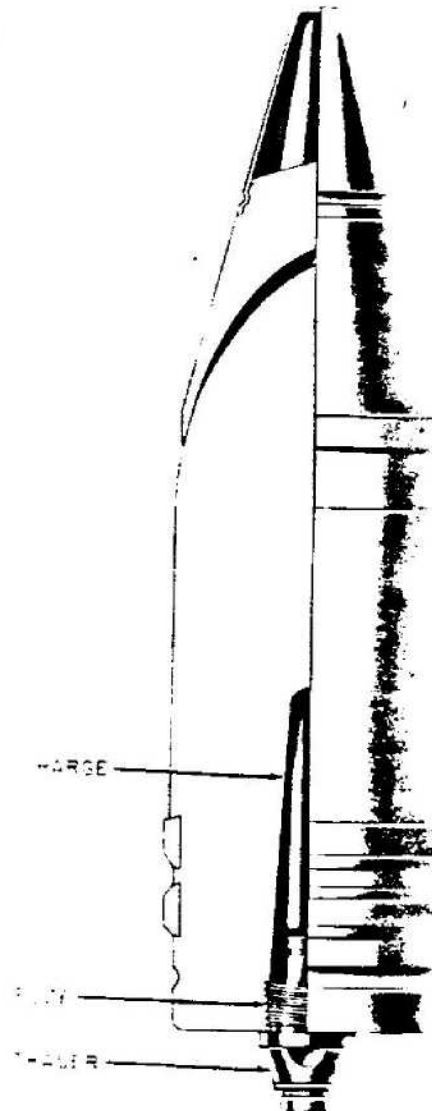

Figure 404—A. P. Projectile, 75-mm, 7.5-cm Pzgr. 39/42.
**GERMAN NOMENCLATURE:** 7.5-cm Pzgr. 39/42. (See fig. 404.)